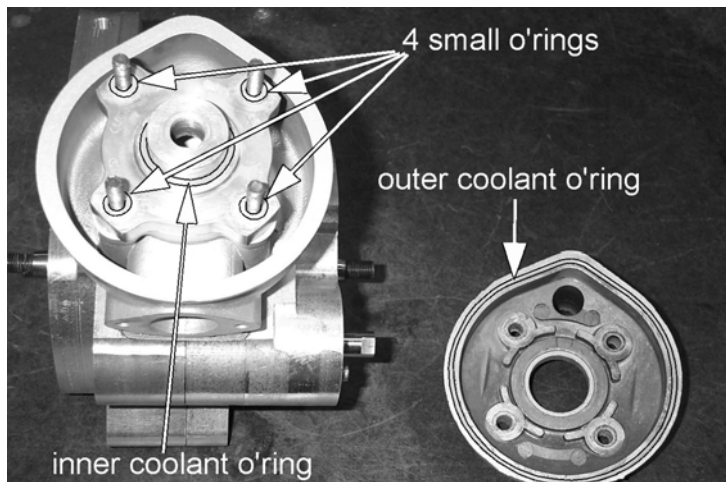

Figure 31
26. Install O-rings as shown in figure 31.